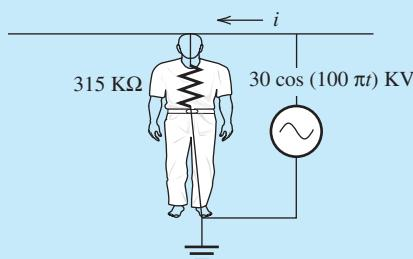
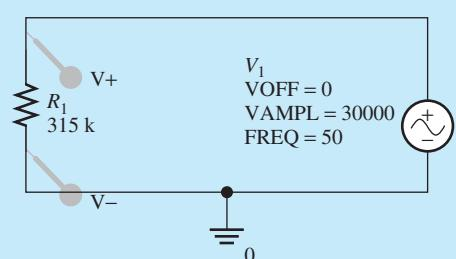

FIGURE 2.85 The equivalent circuit for Example 2.24.
FIGURE 2.86 PSpice schematic circuit for Example 2.13.
Consider the unfortunate bald utility worker of Example 2.13 who climbs an aluminum ladder with bare feet and comes into contact with an overhead power line bearing $30 \cos(100 \pi t)$ kV (Figure 2.86). The worker’s body resistance is $315 \text{ k}\Omega$. This situation can be modeled as a resistor (his body) connected between the terminals of a power supply (the wire) (Figure 2.85). How much current flows through his body? If the minimum current needed for a shock to be fatal is 100 mA, does the worker survive?
1. Instead of using the Direct Current Voltage Source, a sinusoidal voltage source has been chosen. The sinusoidal voltage source for PSpice can be obtained by typing “VSIN” in the “Place Part” window; its amplitude and frequency are set as shown in Figure 2.86.